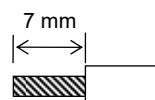

Figure 15. Wire sheath strip length
- 2) Strip the wire sheath. Strip length is 7 mm. (See Fig. 15.)
- Strip the wire sheath. Strip length is 8 mm. (See Fig. 15.)